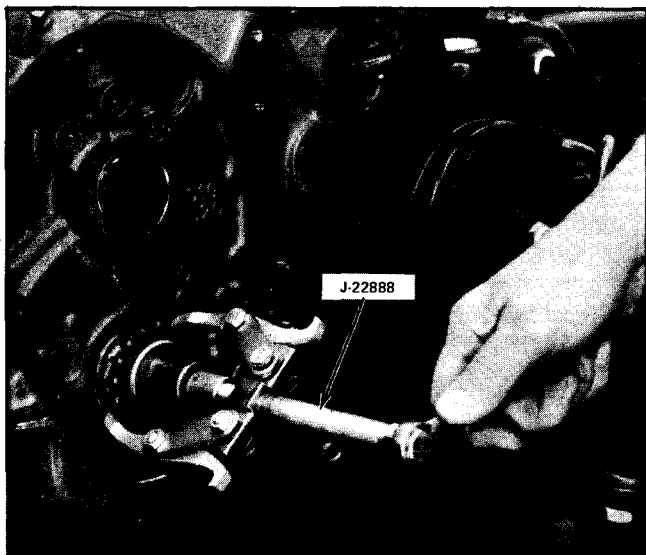
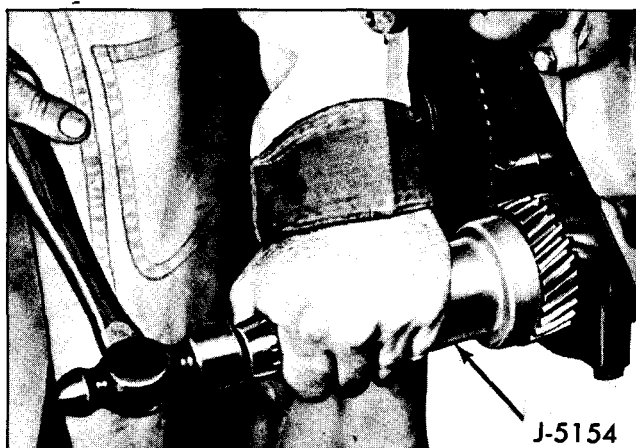

Fig. 6-129 Removing Crankshaft Sprocket
Fig. 6-130 Installing Crankshaft Sprocket
5. If crankshaft sprocket is to be replaced, remove sprocket using tool J-22888 (Fig. 6-129). Refer to Fig. 6-130 for correct installation procedure.